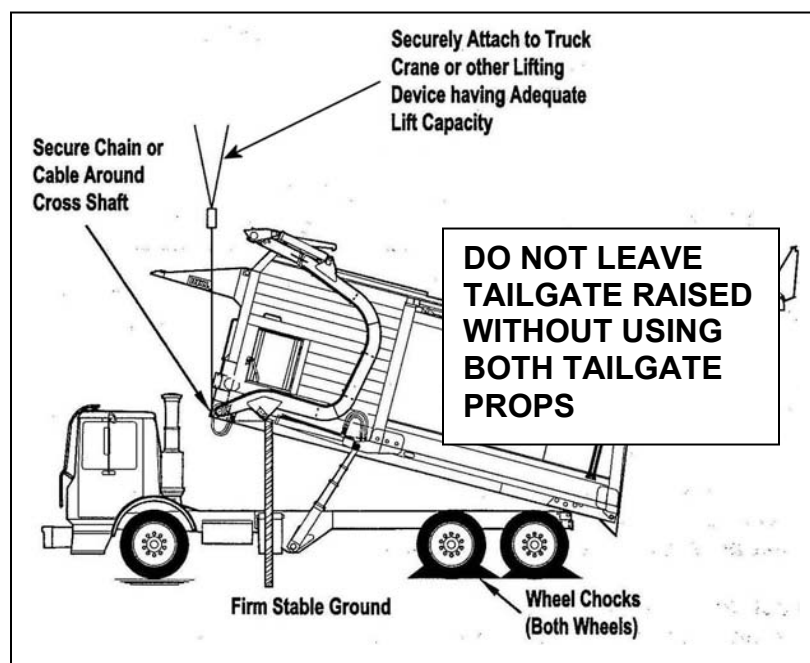

Figure 32. Lowering Raised Body with Inoperative Controls
Use the following procedure to lower a raised body if the in-cab operating controls are inoperative or if the raised body will not lower for any other reason. Observe all DANGER and WARNING notices while you perform this procedure. See Figure 32.
8. Attach the chain or cable device with hooks, all of sufficient lift rating, to the cross tube as shown in Figure 32.